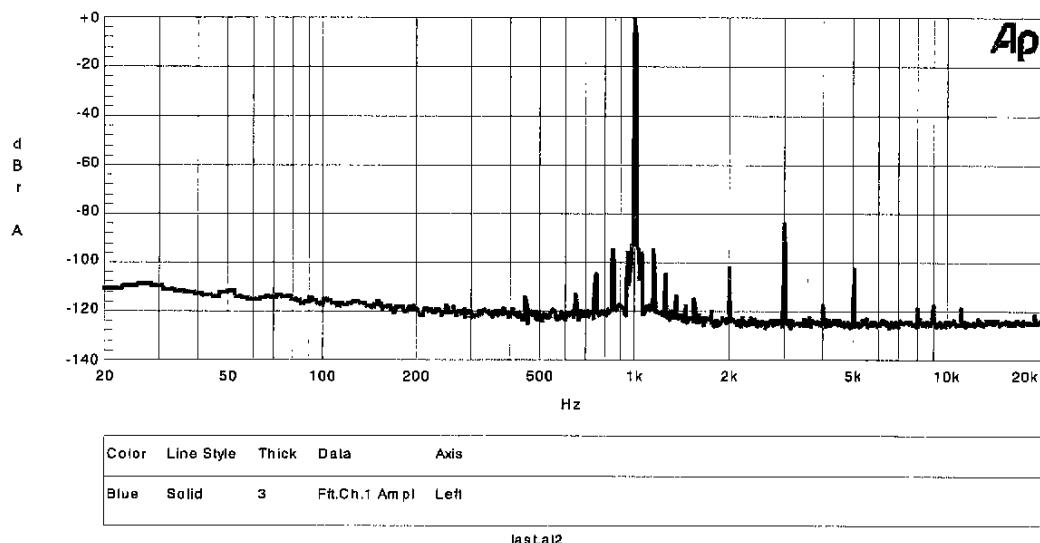
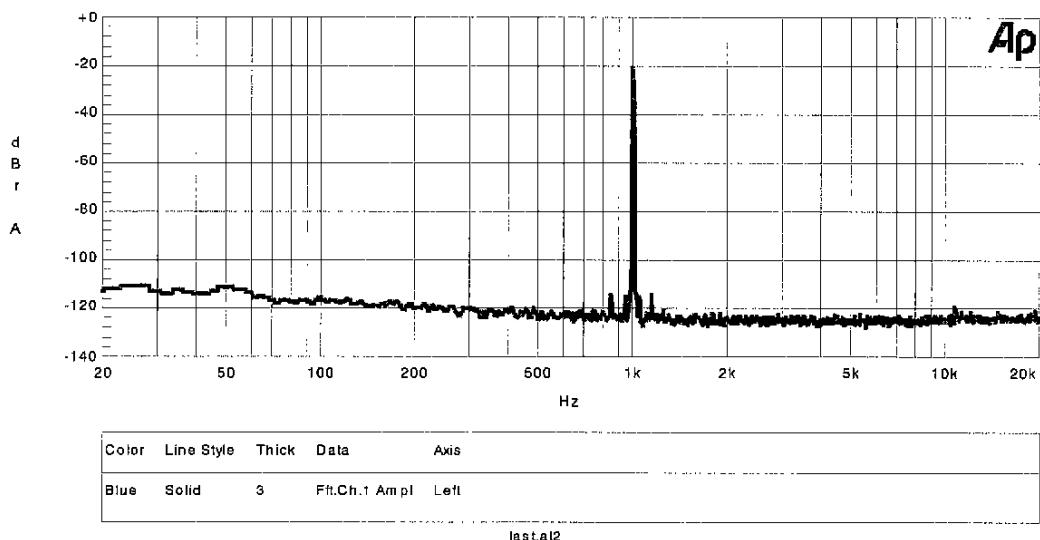
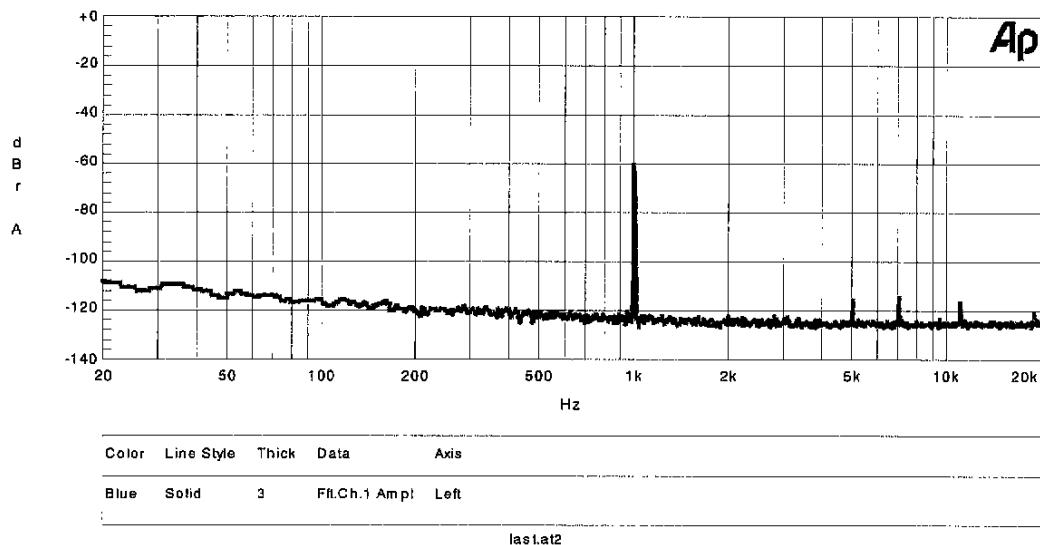

Fig7 : FFT Plot (Input=0dB)
Fig8 : FFT Plot (Input=-20dB)
Fig9 : FFT Plot (Input=-60dB)
- 0dB (Full Scale, Fig7), -20dB (Fig8), -60dB (Fig9),